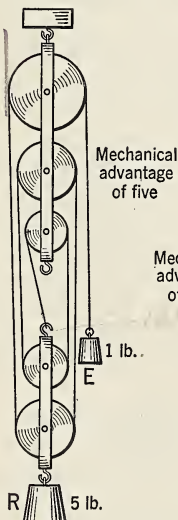
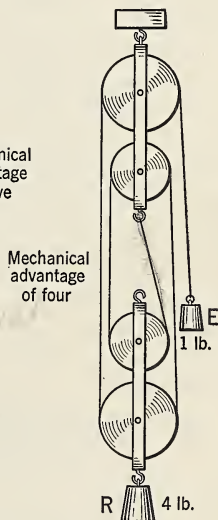

FIG. 253. Five strands support the movable block.
FIG. 254. Four strands support the movable block.
1. *To the movable block.* Let us refer to Fig. 253. One end of the cord is attached to the movable block, passes up over a fixed pulley, down over a movable one, then over a second fixed pulley, and so on. The effort, E , must pull downward a distance of 5 ft. to lift the resistance, R , a height of 1 ft. Hence the mechanical advantage is 5, *exactly equal to the number of strands supporting the movable block.* The strand of cord to which the effort is attached does not *support* the movable block. It does not increase the mechanical advantage, but merely changes direction.
2. *To the fixed block.* If we refer to Fig. 254, we see that one end of the cord is attached to the fixed block, and that the number of strands supporting the movable block is four. The last strand, to which the effort is attached, merely changes direction. If we let the letter n represent the number of strands supporting the movable block in a pulley system, then the pulley formula becomes
ways an odd number when the end of the cord is attached to the *movable* block. It is an *even* number when the end of the cord is attached to the *fixed* block. In the arrangement shown in Fig. 254, the mechanical advantage is *four*. With the arrangement shown in Fig. 253, the end of the cord is attached to the movable block.